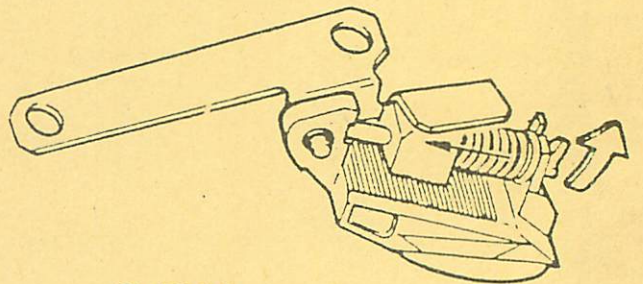

FIG. 3
- Rotate plastic lever of 60...90 degrees alternatively, in order to disengage tensioning spring of the shoe (see fig. 3)